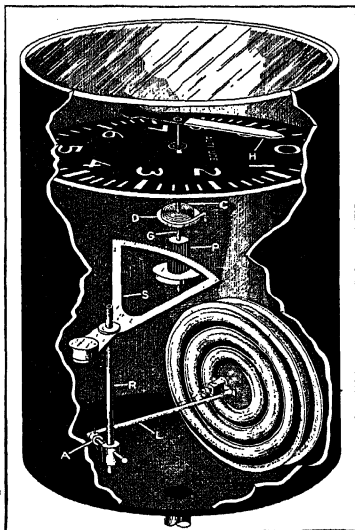
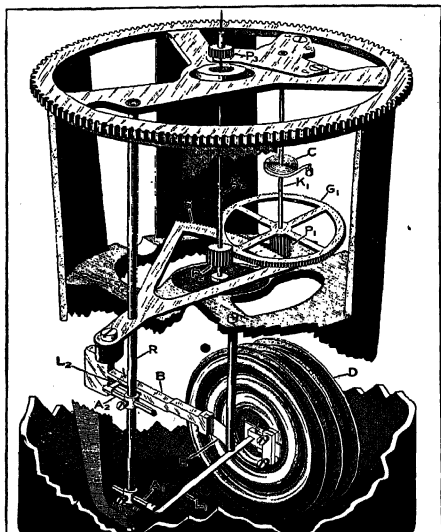
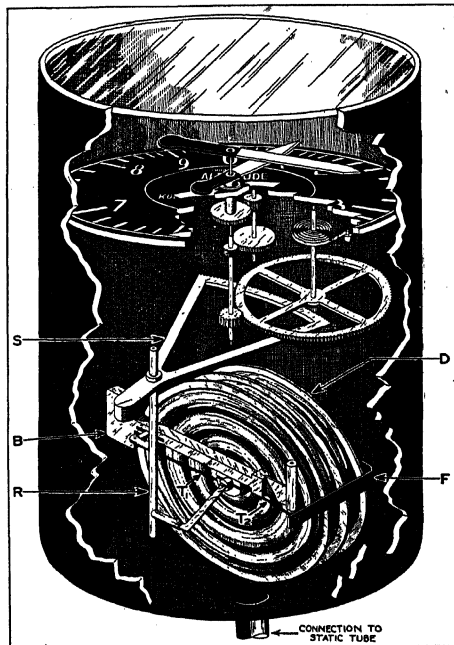

FIG. 1.—Kollsman simple altimeter.
FIG. 2.—Diaphragm and lower gearing of Kollsman sensitive altimeter.
FIG. 18.—Temperature compensation on sensitive altimeter.
The altimeter is a pressure gage with the dial marked in units of altitude. It gives the altitude of the plane in relation to the earth or to sea level. It works by differing pressures inside and outside an airtight diaphragm. When the pressure in the case outside the diaphragm decreases, as the plane climbs, the diaphragm expands. The expansion movement acts on a lever and, through multiplying mechanisms, indicates the change in altitude on a graduated dial. The mechanism of a Kollsman simple altimeter is shown in Fig. 1.
**Sensitive Altimeter.**—To secure a more sensitive instrument, the simple mechanism of Fig. 1 is replaced by more gearing which gives greatly increased movement to the hand for the same expansion of the diaphragm  $D$  (Fig. 2).
**Disassembly of Sensitive Altimeters.**—The sensitive altimeter shown in Fig. 2 does not have full-range compensation. The temperature compensation unit is fixed to the diaphragm unit by two screws, which should not be touched. Full-range compensation is shown in Fig. 18. Here the temperature compensation unit is in the form of a fork *F* around the diaphragm unit. It connects to the diaphragm by pins  $T_1$  and  $T_2$ . No parts of the tem-